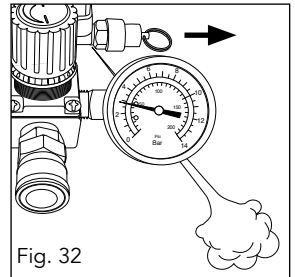

Fig. 32
2. Hold the ring on the safety valve (10) and pull it outwards. Air should discharge from the valve (Fig. 32).